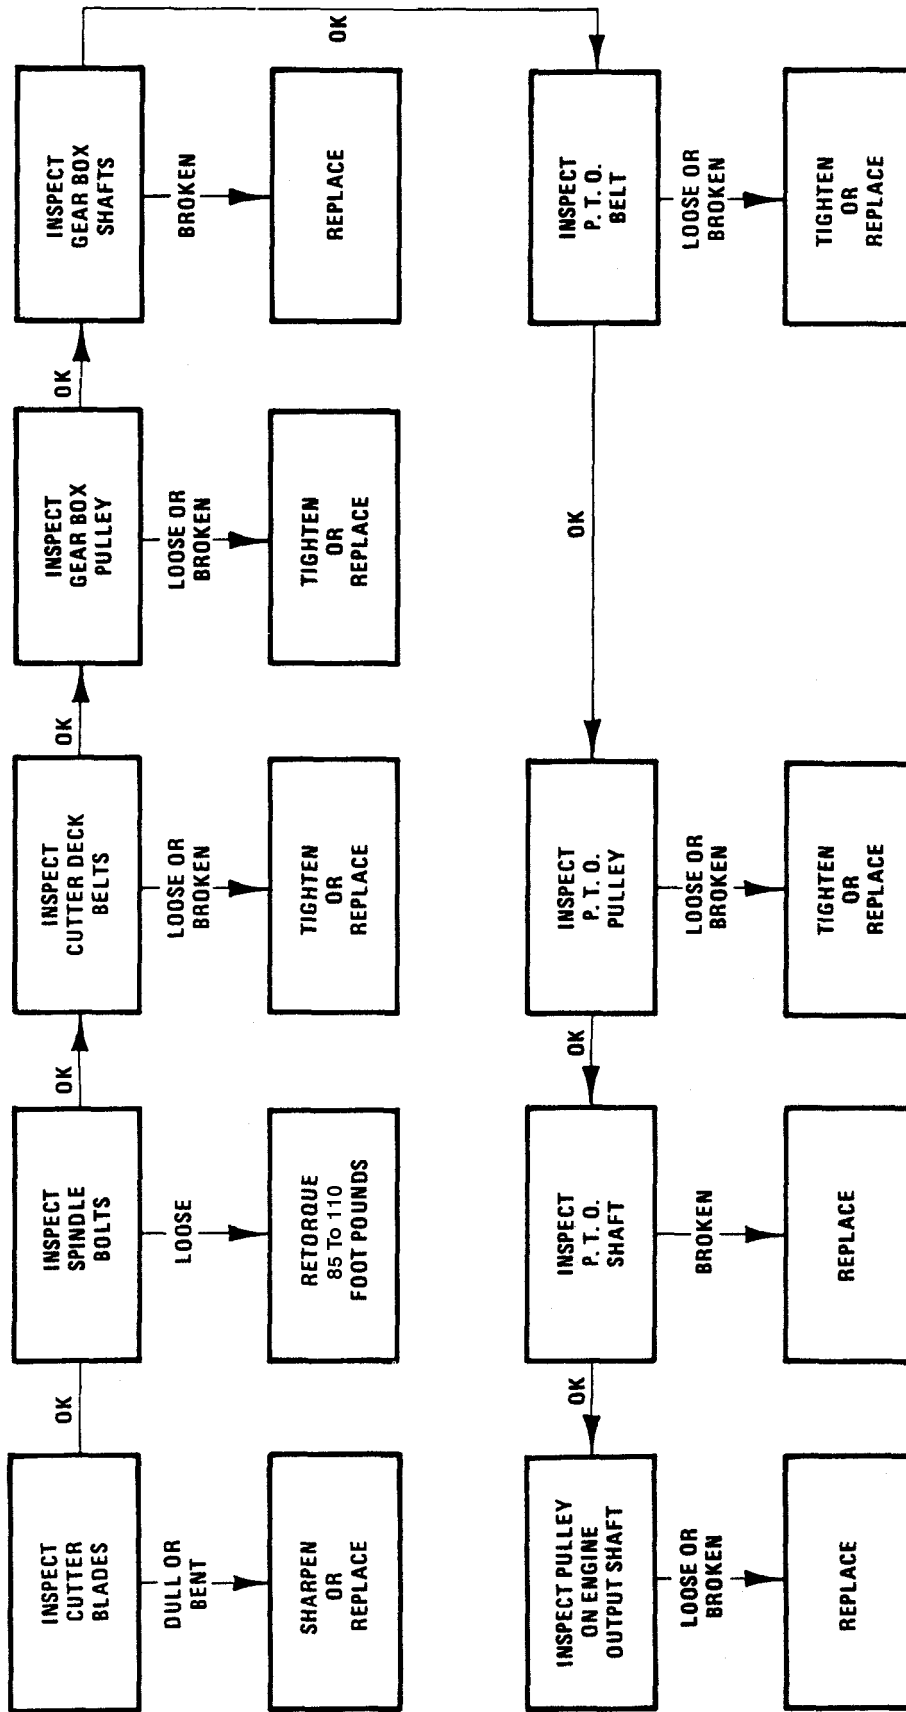

Figure 16
2. Position machine and cutting unit on a level surface and lower cutting unit. Remove fill/check plug from side of gear box (Fig. 16) and make sure lubricant is up to bottom of hole. If level of lubricant is low, add SAE 80–90 wt. gear lube until level is up to bottom of hole.